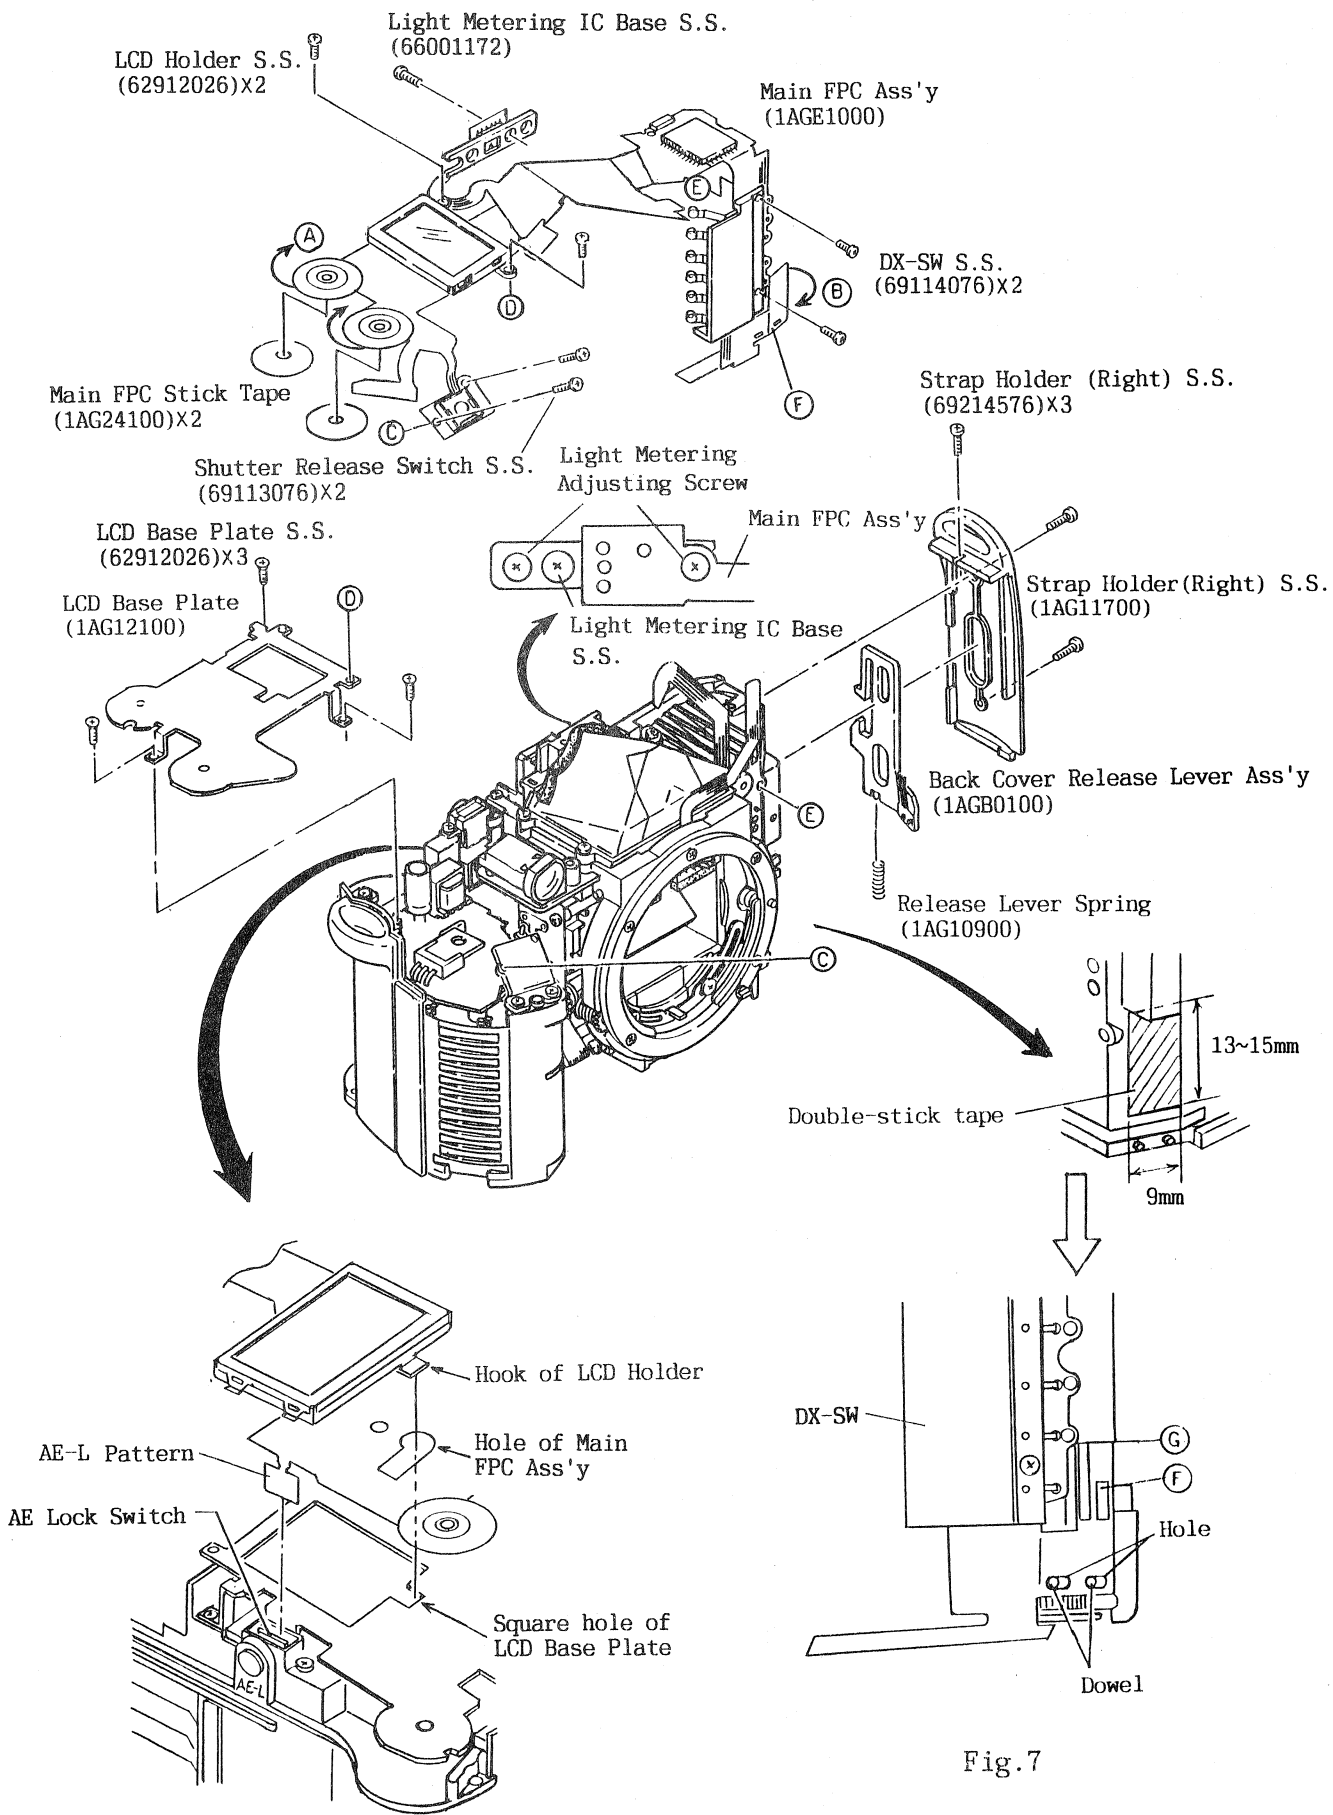

Fig.7
- a) Place the AE - L pattern of the Main FPC Ass'y behind the AE Lock Switch as shown in Fig.7.
- b) Pass the hook of the LCD Holder through the hole in the Main FPC and catch it in the square hole of the LCD Base Plate. (See Fig.7)